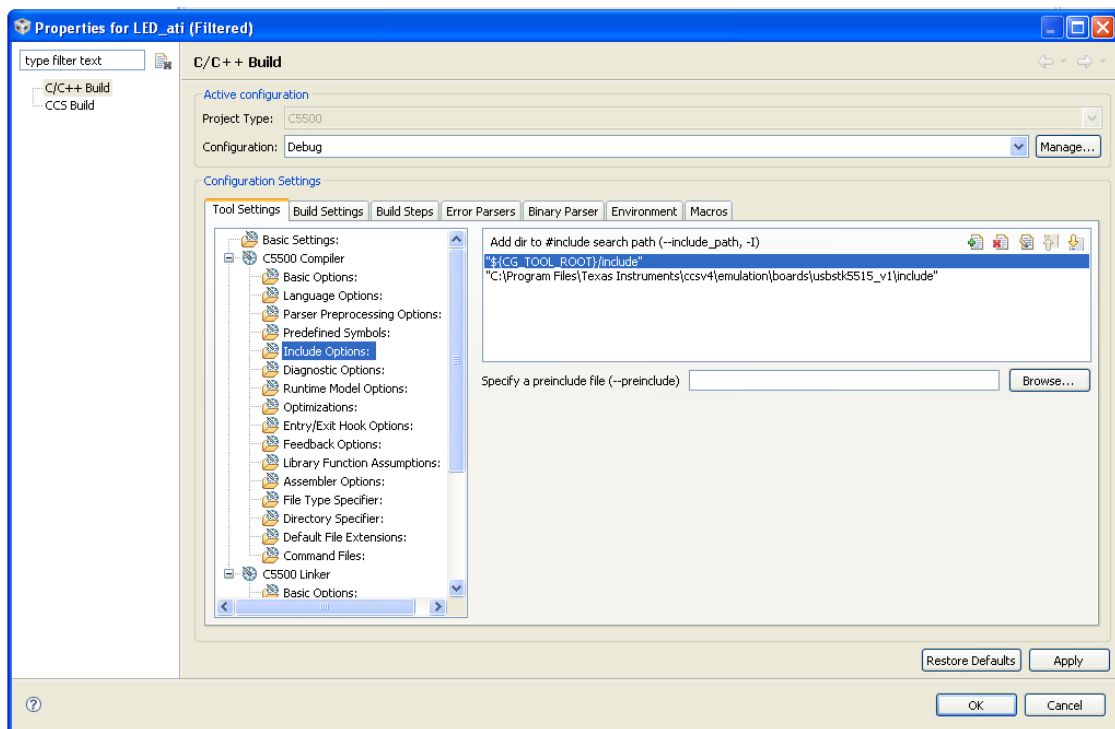

Figure 4: CCS interface demonstration showing include options for the LED project.
- From **C5500 Compiler**, select **Include options** and add the path **Program Files (x86)/Texas Instruments/ccsv4/emulation/boards/usbstk5515_v1/include**. This is shown in Fig. 4.